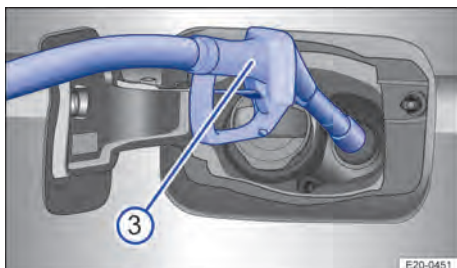

Fig. 166 Refilling AdBlue with a pump nozzle.
1. Hold the AdBlue® nozzle so that the handle is facing down in order to ensure optimum filling → Fig. 166 ③.
3. The AdBlue® tank is full when the nozzle clicks off for the first time → ①.